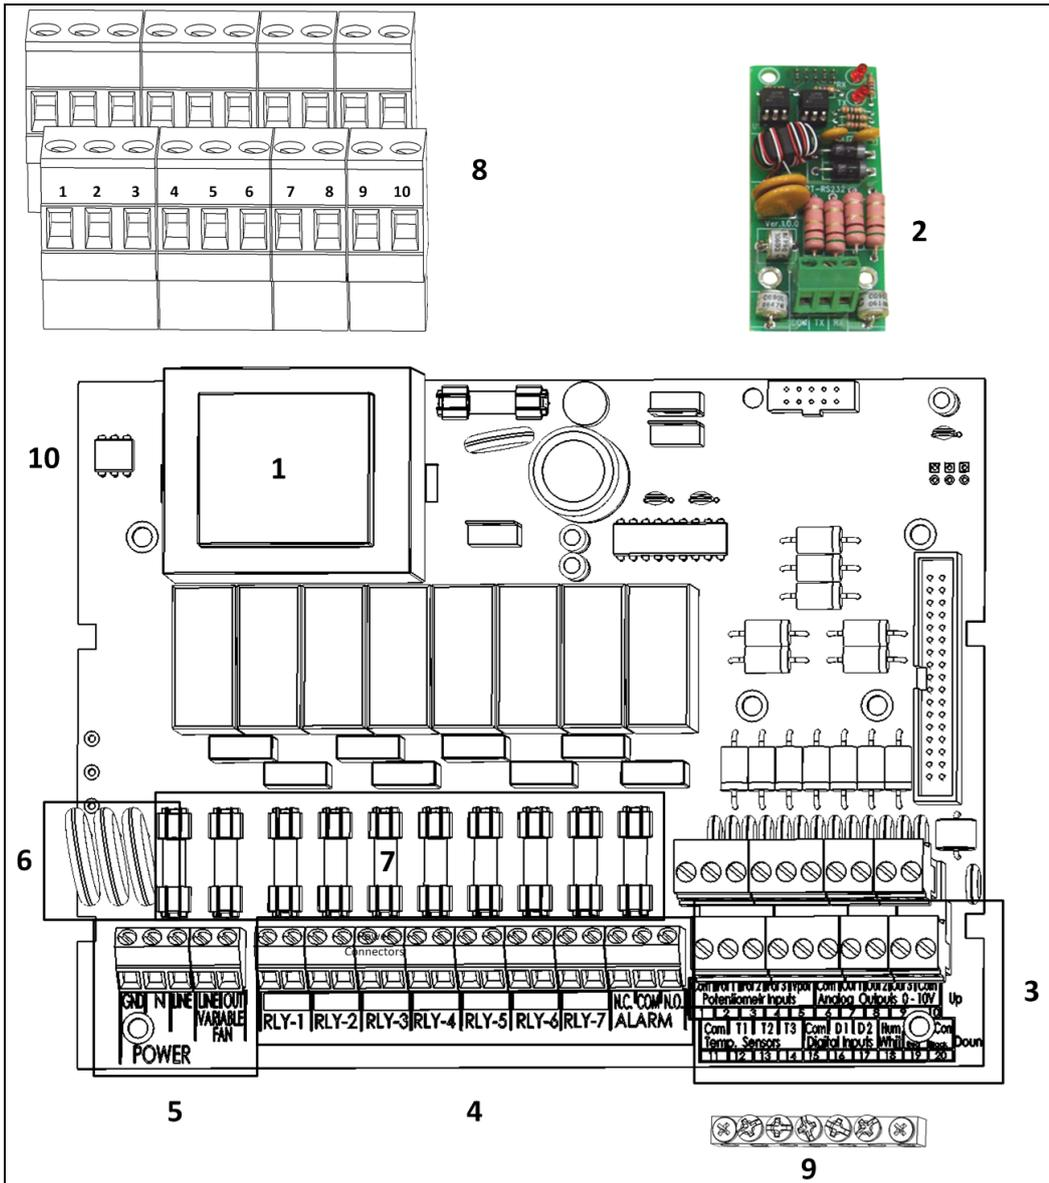

Figure 2: Smart C Board Layout
- Figure 2: Smart C Board Layout
Figure 2 key